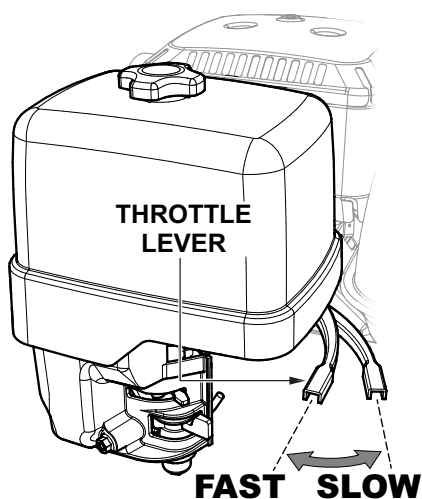

Figure 15. Throttle Lever
7. Move the throttle lever halfway between the **FAST** and **SLOW** position (Figure 15) for starting.
2. Place the engine's throttle lever (Figure 15) in the **slow** (idle) position.
3. Place the engine's throttle control (Figure 15) in the **SLOW** (idle) position.
3. Place the throttle lever (Figure 15) in the slow position. Idle engine 3-5 minutes for gradual cooling.